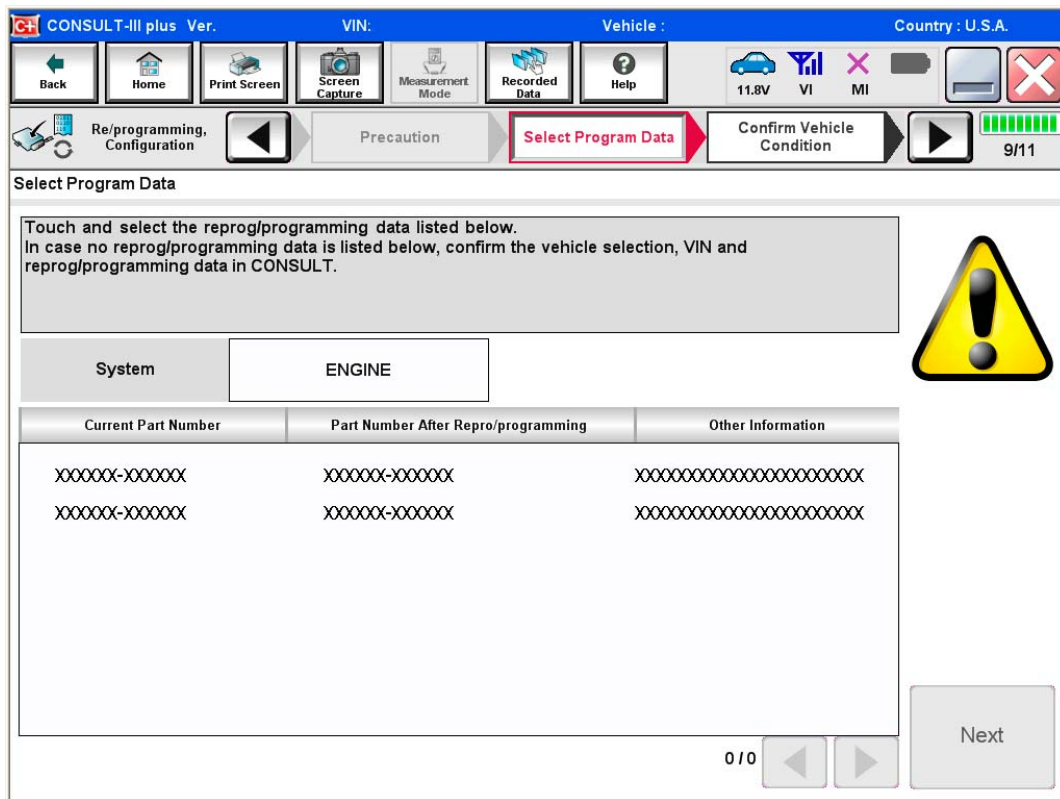

Figure 9
- In this case, the screen in Figure 9 displays.